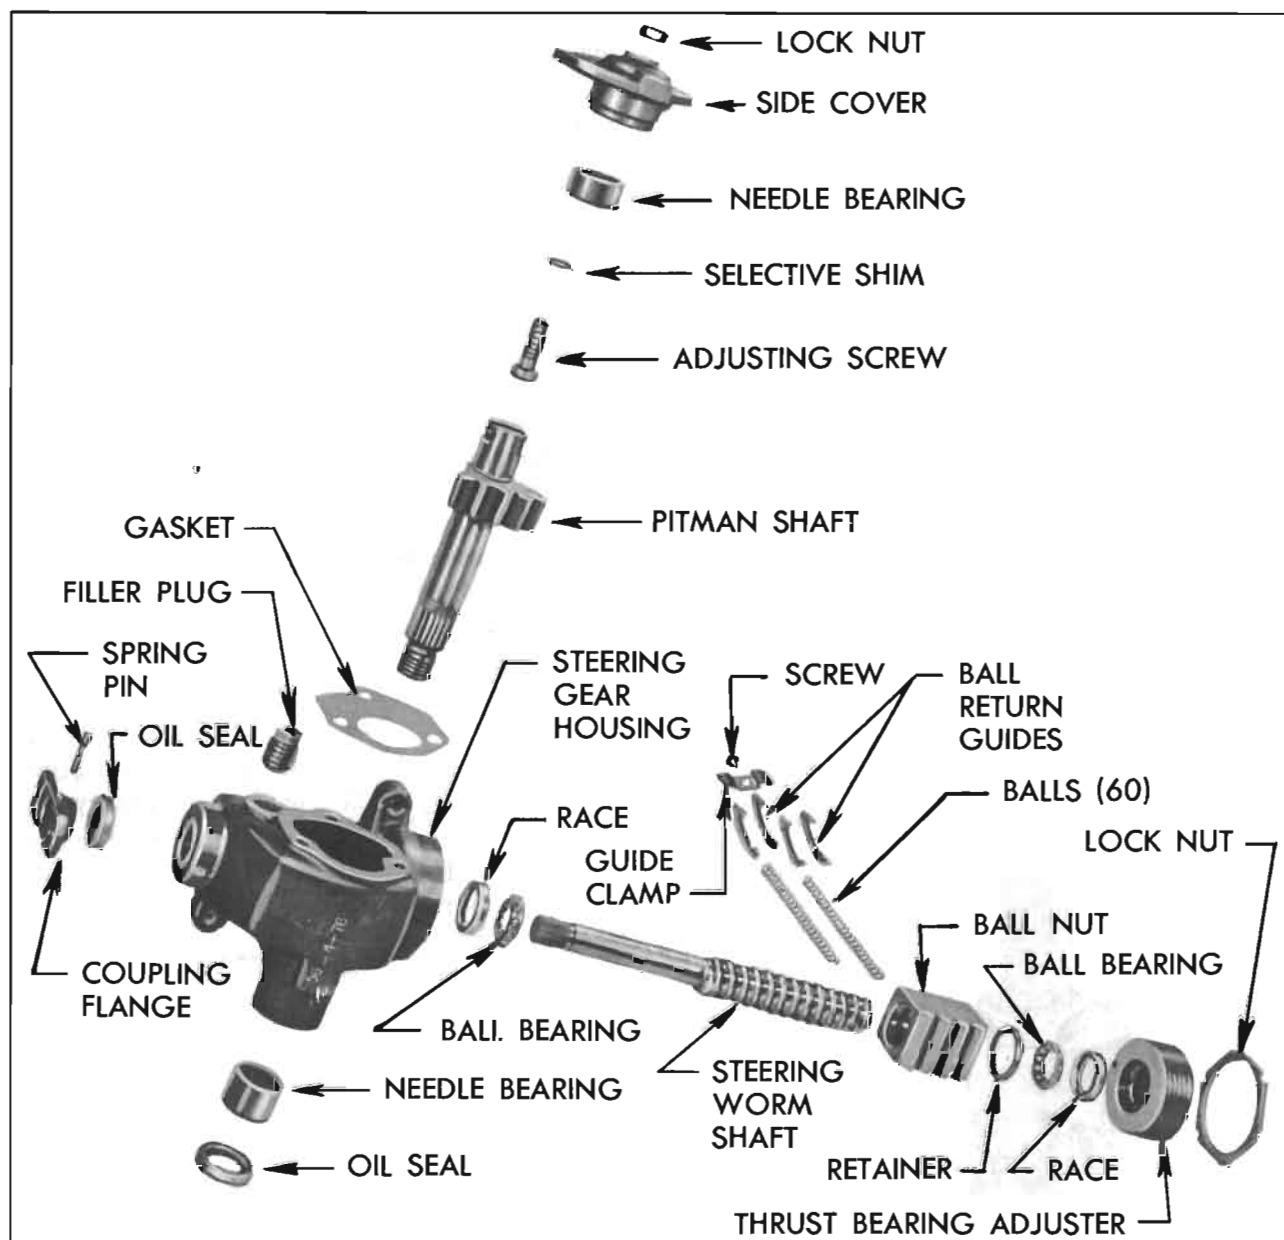

Figure 8-10—Steering Gear—Disassembled
2. Assemble ball nut on worm, making sure that there are 30 balls in each circuit, making a total of 60 balls. Then install return guides and clamp. See figure 8-10.